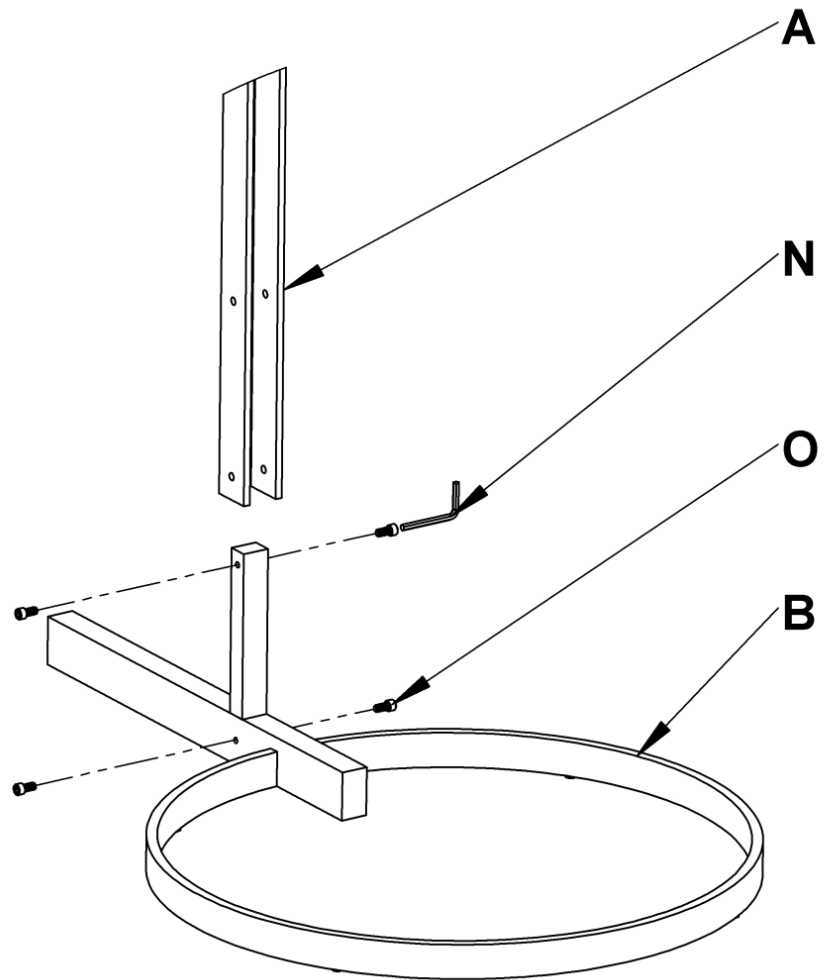
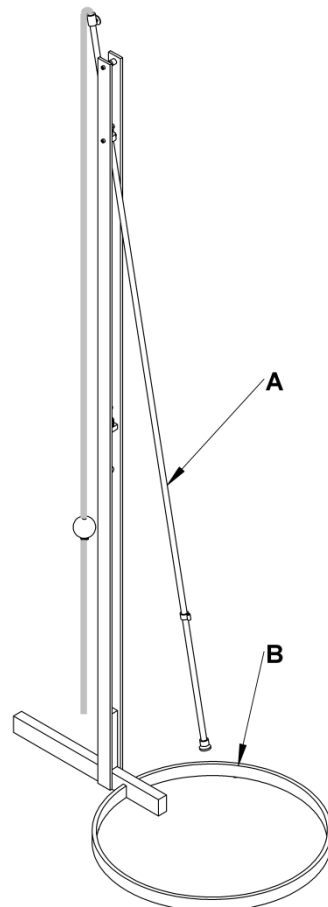

Figure 1
Figure 2
ETo Assemble base to upright (Figure 1 & 2)
- C Shade/Diffuser Assembly (not shown in Figure 1)
- O Socket Head Cap Screws (4)
1. Carefully unpack the lamp from the boxes. Do NOT remove plastic wrap from Shade/Diffuser Assembly (C) at this time.
2. Locate the upright assembly (A) and the base assembly (B). Place the base assembly (B) on the floor. Remove socket head cap screws (O)
3. Orient upright assembly (A) to base assembly (B) as shown in figure 2.
4. Slide the upright assembly (A) over the vertical bar on the base assembly (B) until the holes in the upright assembly (A) align with the tapped holes in the base assembly (B). Install 4 socket head cap screws (O) using hex wrench (N).